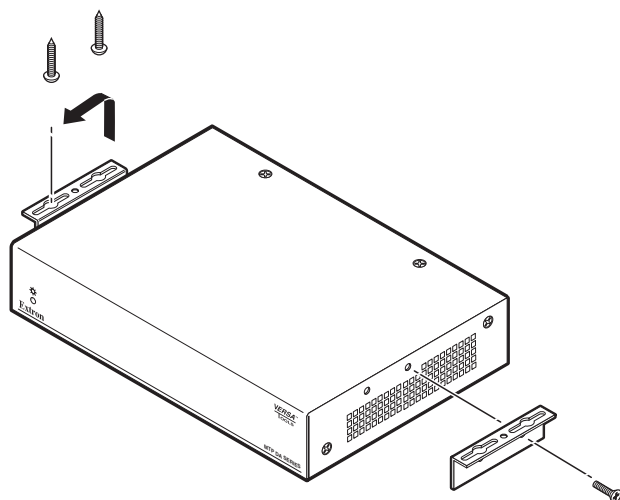

Figure 5 — Attaching the furniture mounting brackets to an MTP DA
2. Attach the furniture mounting brackets to the DA with the provided machine screws (figure 5).